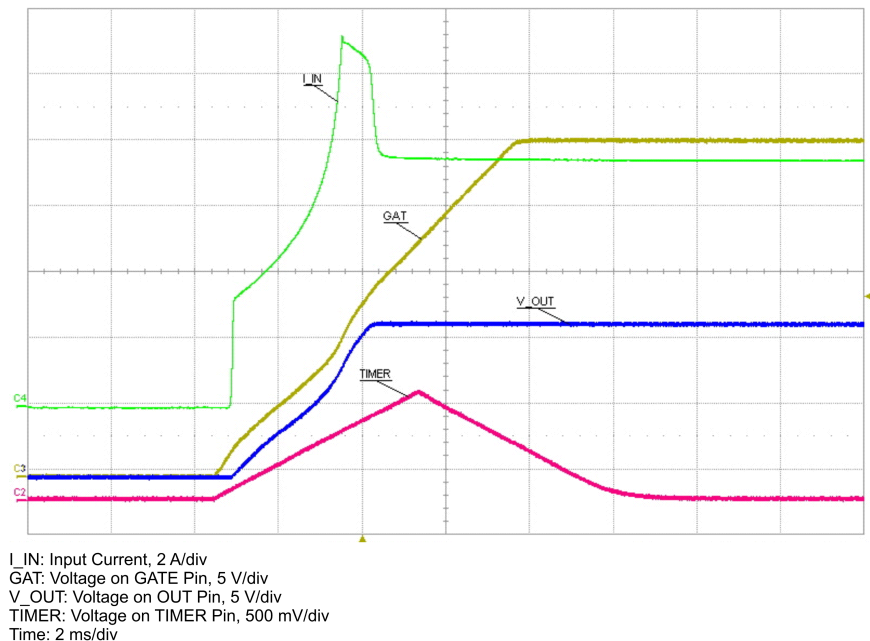
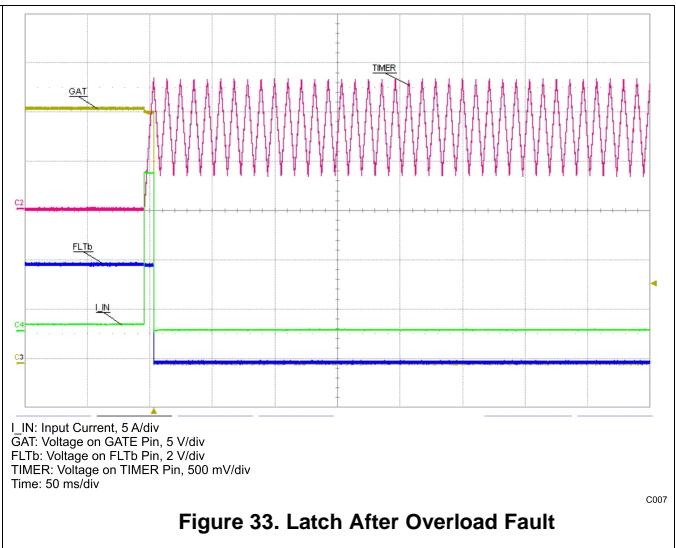

Figure 26. Inrush Mode at Hot-Swap Circuit Insertion
Figure 33. Latch After Overload Fault
The *Typical Application (12 V at 10 A)*, and oscilloscope plots shown in Figure 26 through Figure 28 and Figure 30 through Figure 33, demonstrate many of the functions described previously.
Figure 26 and Figure 27 illustrate the inrush current that flows when a hot swap board under the control of the TPS24710/11/12/13 is plugged into a system bus. Only the bypass capacitor charge current and small bias currents are evident when a board is first plugged in. The TPS24710/11/12/13 is held inactive, for a short period while internal voltages stabilize. During this period GATE, PROG, TIMER are held low and PG, FLT, PGb, and FLTb are held open drain. When the voltage on the internal VCC rail exceeds approximately 1.5 V, the power-on reset (POR) circuit initializes the TPS24710/11/12/13 and a start-up cycle is ready to take place.
- In latch mode, the GATE remains low and the TIMER pin continues to charge and discharge the attached capacitor periodically until TPS24710/12 is disabled by UVLO or EN as shown in Figure 33.